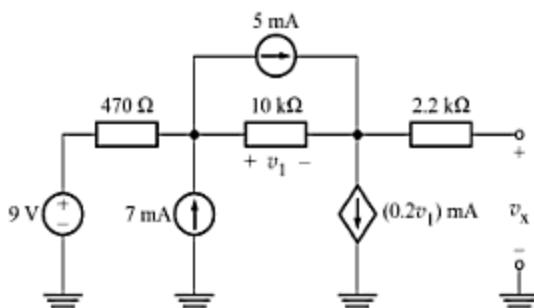

Fig. A-120
- A-87. Use nodal analysis to obtain the value of v_x in the circuit of Fig. A-120. [Ans. -38.69 V]